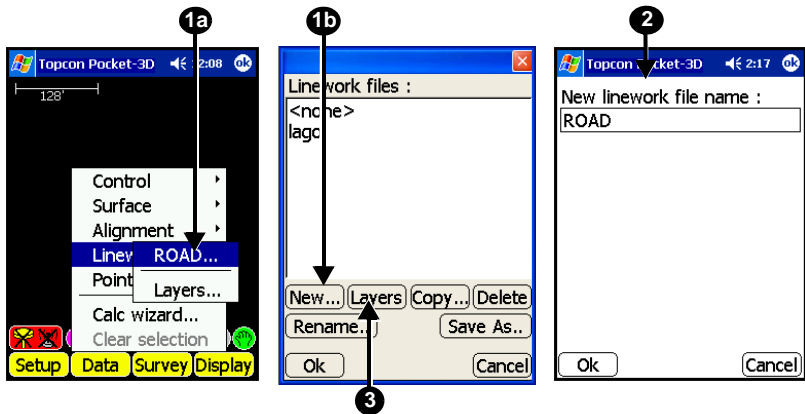

Figure B-15. Create Linework File
1. Tap **Data** ▶ **Linework** ▶ [**<none>** or file name]. Press **New** (Figure B-15).